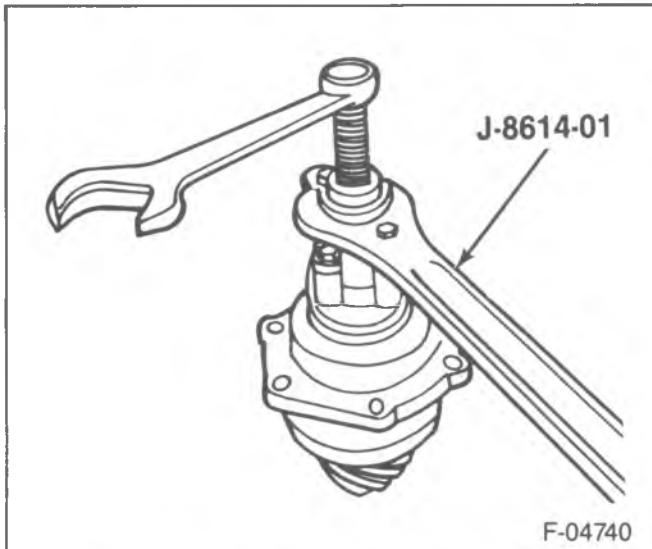
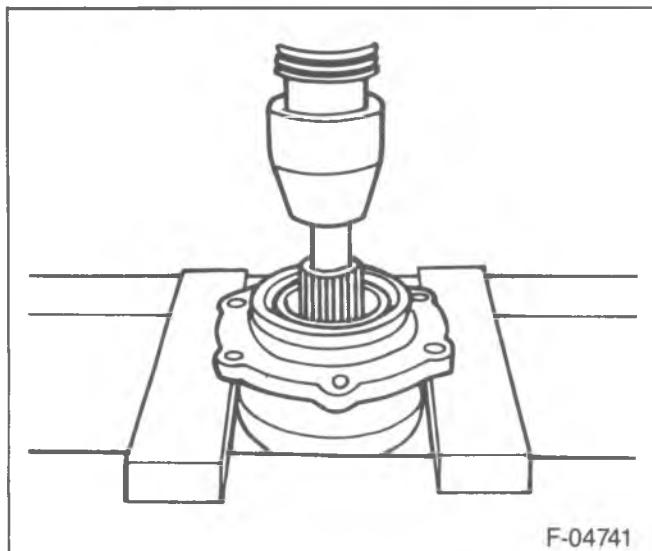

Figure 69—Removing the Pinion Flange
Figure 70—Pressing the Pinion from the Cage
- 20. Pinion flange using J-8614-01 (figure 69).
- 21. Pinion (14) from the pinion cage (10).
- Place the cage into an arbor press as shown in figure 70 and press the pinion from the cage. Do not let the pinion fall to the floor.